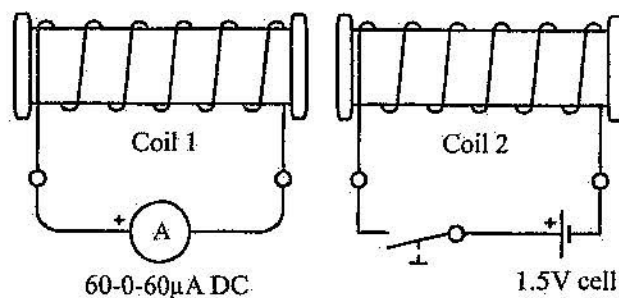

Figure 2
19. Reconnect the circuit as shown in figure 2.